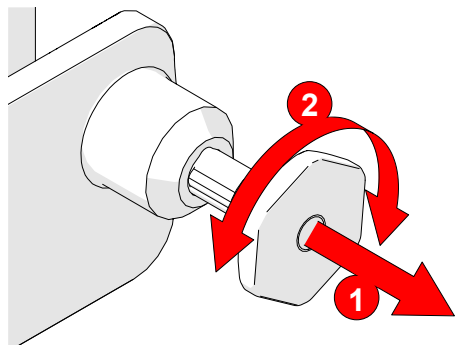

Fig. 214 - Pull latch pin and rotate
5. Pull the latch pin and slightly rotate the latch pin left or right (Fig. 214).